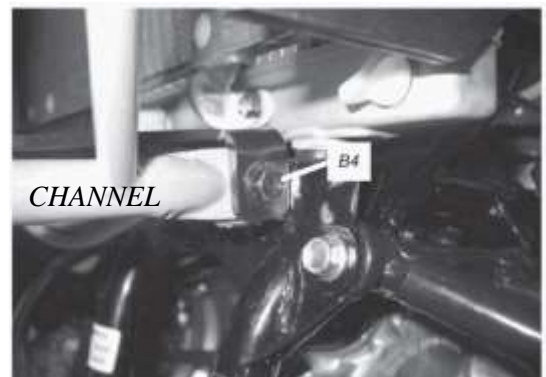

Figure 8 Install New Supplied 8mm Bolts
10. If your ATV is a Rubicon you can now place the front bumper with attached winch assembly back onto the ATV frame. Reinstall the (4) bolts that were removed in steps 4 & 5. ***Do not tighten at this time.***
11. Install the supplied 8mm bolts (B4), "Figure 8", into the middle bumper mounting location, Step 6. ***Do not tighten at this time.***